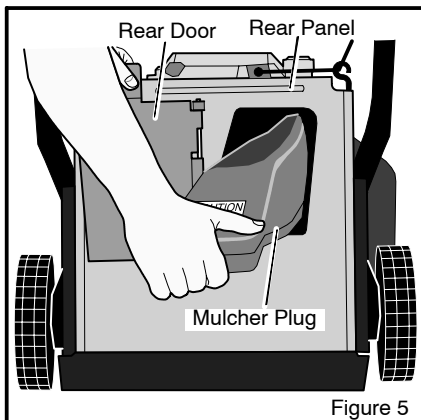

Figure 5
1. Hold the **handle** on top of the grass bag. Open the **rear door** and remove the mulcher plug (Figure 5). Mount the grass bag to the **rear plate** (Figure 2). Make sure the **top corners** of the frame assembly lock over the **rear plate**.
2. Remove the **mulcher plug** from the discharge opening (Figure 5).